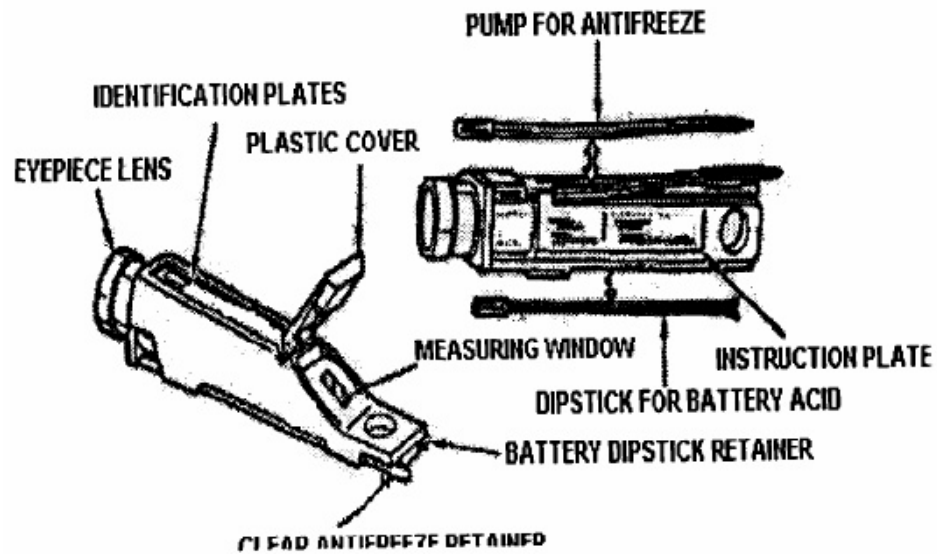

Figure 3-1
- a. Optical Battery Tester (Figure 3-1). This tester is quick, it uses no mathematics, and automatically compensates for temperature. The following procedures describes the use of the optical tester: Do not use this tester on GEL type batteries.